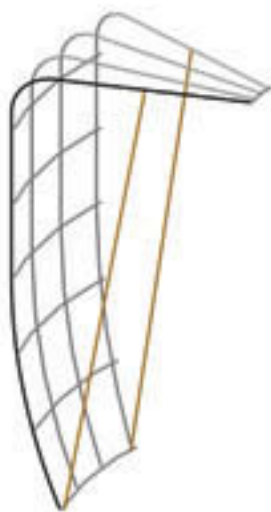
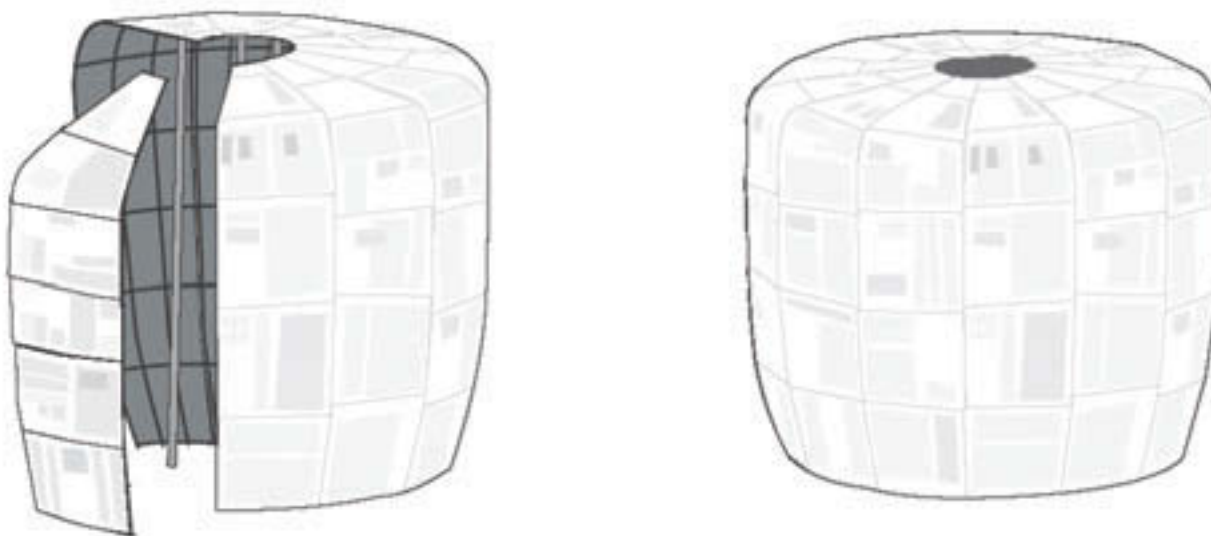

Fig. 20: Adding optional vertical supports
Fig. 22: The completed form
2. Separate the form into pieces by cutting between each of the double verticals (figures 18-19). (Remember: Each of these pieces should be approximately 60 cm wide and small enough to fit through the finished manhole of the tank. If the manhole will be smaller than 60 cm, the placement of the extra verticals may need to be modified.) Once the form has been cut apart, vertical supports can be added by welding additional pieces of rebar to the form sections (figure 20). These help the form maintain its shape during construction. However, adding these vertical supports is expensive and can make it more difficult to transport the form pieces. An alternative option is to add wooden posts at the construction site to support the roof (as in figure 22).
5. Before construction, assemble the pieces by climbing inside and tying the pieces together with #18 steel wire (figure 22).